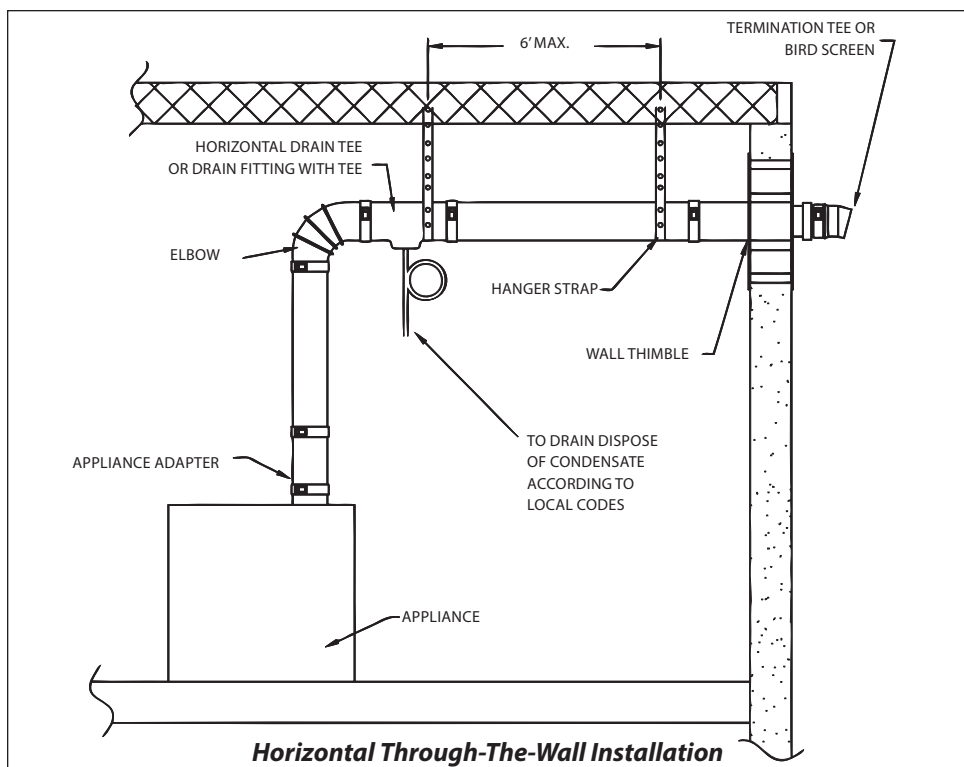

Figure 3
- For a typical Horizontal Through the Wall installation, refer to **Figure 3**. When venting through a sidewall, terminate the system not less than 12" (.3m) above the ground and above the snow line in geographical areas where snow accumulates. The termination area must be kept clear of snow and ice at all times.